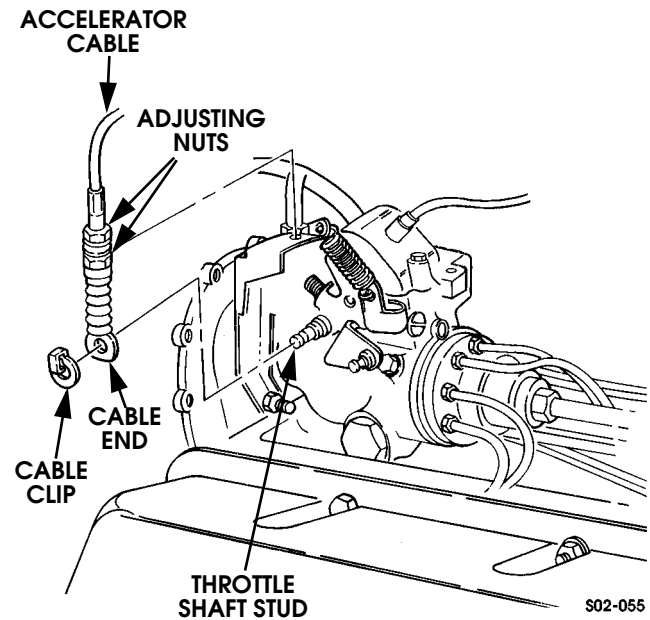

Figure 2-68: Accelerator Attachment
22. Disconnect accelerator cable as follows (Figure 2-68):